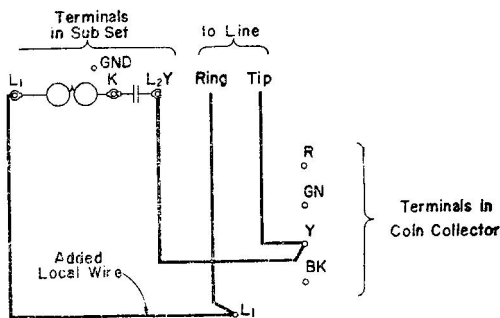
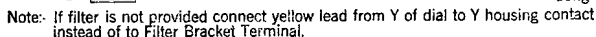

Fig. 1—50, 150, 161, D-98548 and D-99788 Type Coin Collectors Equipped with L_1 Terminal (Common Battery Stations)
Fig. 7—181-Type Coin Collectors—For Manual or Dial Anti-Sidetone Stations (101B Ind. Coil)
2.04 When D-98548, D-99788, 50, 150 and 161-type coin collectors are equipped with L_1 terminals, the line wires (Tip and Ring) should be connected directly to the coin collectors as indicated in Fig. 1 instead of to the subscriber sets as shown in Figs. 2 to 6, unless local instructions state otherwise. Other connections are the same as shown in Figs. 2 to 6. Although the line wires are shown connected directly to 181-type coin collectors in Figs. 7 and 8, they may be connected to the corresponding L_1 and L_2 terminals in the subscriber set, when permitted by local instructions.